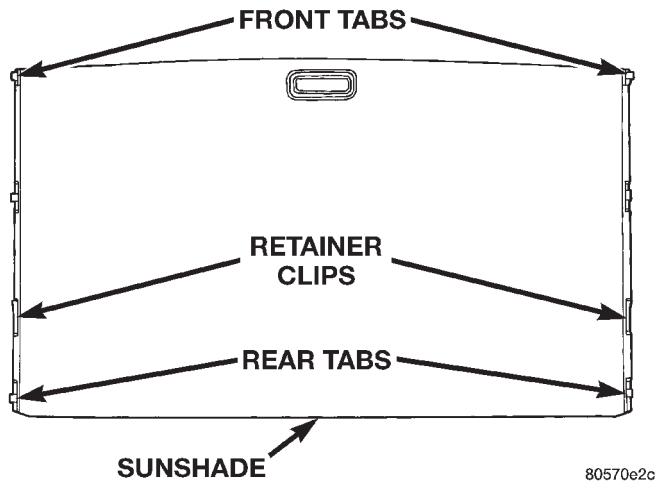

Fig. 8 Sunshade
- (1) Remove wind deflector, mechanism covers and glass panel.
- (2) Position system to full rearward position.
- (3) Slide sunshade panel full forward and release the front tabs from track assembly.
- (4) Pull front and rear retaining clips inboard and lift sunshade out (Fig. 8).